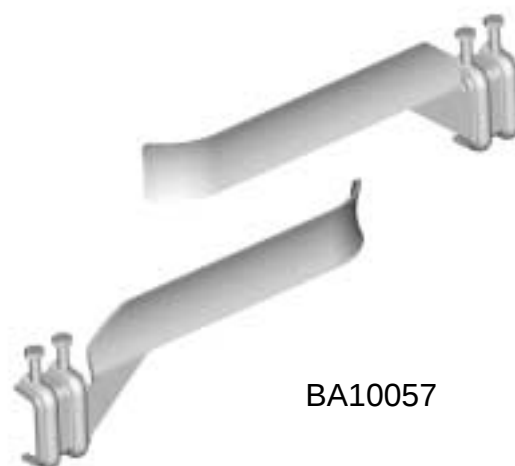

Fig. 7
In order to determine the travel of the moving part, place two cams at the ends of the rack (Fig. 7).
- 1 - After you positioned the limit switch cams on the rack, (Fig.7 page 4), set Dip1 on mode ON. The LED DL5 starts blinking.